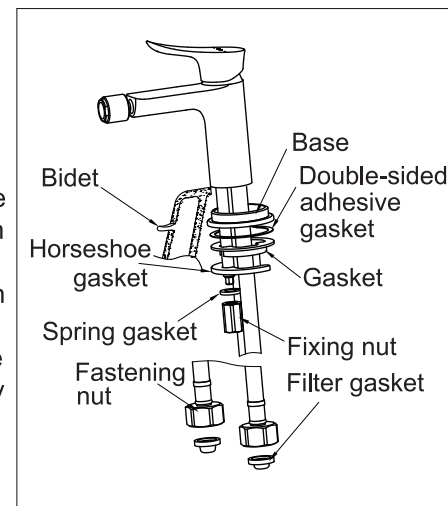

Fig. 1 (Main faucet body installation)
(1) As shown in Figure 1, remove the fixing nut, spring gasket, horseshoe gasket at the lower part of the body.